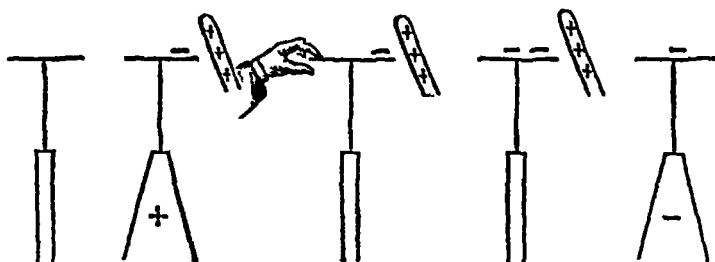

FIG 175
**To charge an Electroscope by Induction** — (1) (fig 175) The uncharged leaves hang side by side. (2) Bring a rod charged positively near the disc. The disc becomes negatively, and the leaves positively electrified by induction, and diverge. (3) Touch the disc with the finger, the disc, the leaves and the finger become negatively charged, the body and earth positively, the positive electrification of the rod neutralises the equal amount of negative electrification on the electroscope, and the leaves collapse. (4) Remove the hand,